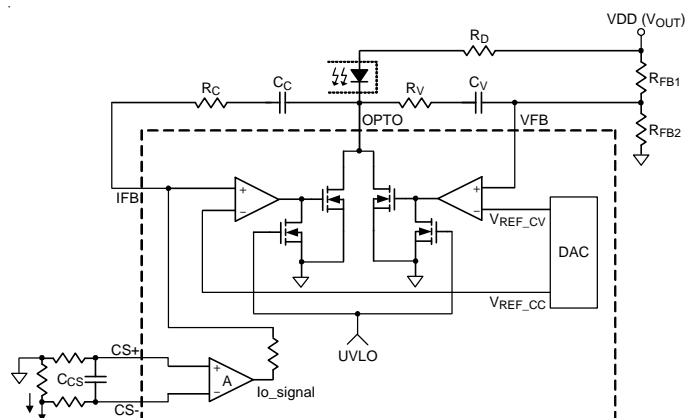

Figure 6. CC and CV Loops and Current-Sense Amplifier
As shown in Figure 6, the RT7207 incorporates 2 error amplifiers (EA) inside to regulate the output voltage and current, respectively. The output voltage is determined as :